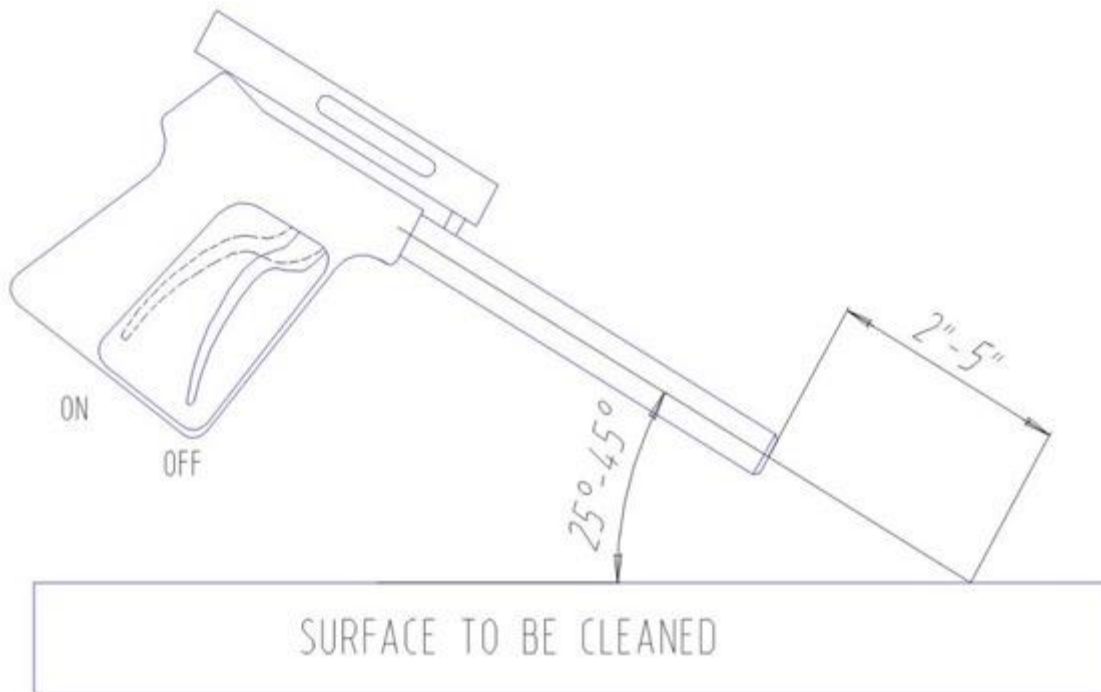

Figure 5.3 – Zero-thrust gun Position for Best Results
7. With the zero-thrust gun submerged, pull the trigger to the open or ON position to release dead-headed pressure. Keep it pressed. Wait for diver to get to working position. (See figure 5.3)
2. Activate the cleaning cavitation stream by squeezing the trigger to the open or “ON” position (See Figure 5.3). Release trigger to stop the water flow and direct to by-pass.
3. If the diver operating the unit must be replaced or the cleaning operation must be interrupted or terminated, turn the unit off **and then release the water pressure in the hose(s) by squeezing the zero-thrust gun trigger to the open or “ON” position (See Figure 5.3) while under water.** Revert back to step 5.2 of the operating instructions when the diver or replacement is ready to continue cleaning.
- Pull the zero-thrust gun trigger to the open or “ON” position (See Figure 5.3).
When the diver is ready to commence cleaning operations, ensure that the zero-thrust gun trigger is in the open or “ON” position (See Figure 5.3), the zero-thrust gun is submerged in the water and the feed pump is operating prior to starting the electric motor. Ensure that the power unit operator and other people working in the vicinity of the power unit wear appropriate hearing protection when the unit is running.
1. The most efficient operating technique is to hold the nozzle 2-5 inches (5-8 cm) away from the surface to be cleaned and at a 25-to-45-degree angle to the surface being cleaned (See Figure 5.3). The diver needs to observe the shape of the cavitating jet cone. At greater depths, the higher ambient pressure will cause the jet cone to be shorter. The widest zone of the cone is the most efficient part of the cavitating jet. Placing the nozzle closer than 2 inches (5 cm) from the surface being cleaned will not allow for efficient cavitation performance and will degrade the cleaning capability of the CaviBlaster system.
3. **Squeeze the zero-thrust gun trigger to the open or “ON” position (See Figure 5.3) to release the water pressure remaining in the hose(s) while the zero-thrust gun is submerged.**